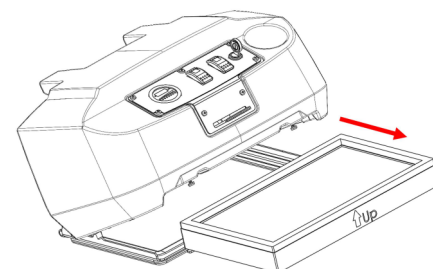

Fig. 4
- Take the filter out of the machine. (Fig.4)